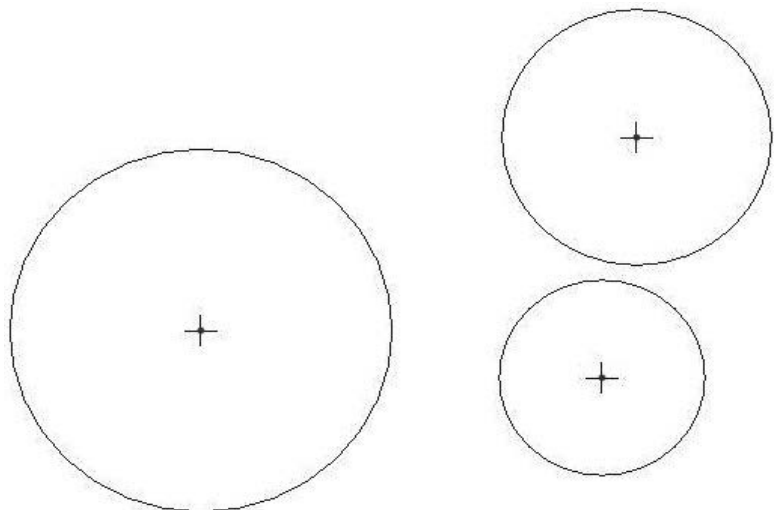

Figure 3-26 Three Circles
**Step 12:** Use  to draw three circles somewhere on the screen as shown in Figure 3-26. Do not let the circles intersect. Do not make the circle the same diameter.